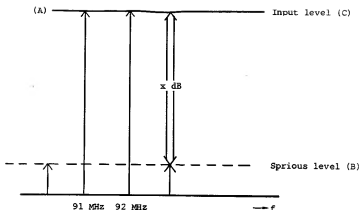

Fig. 4-4 Two-signal characteristic measurement
- ⑦ Read the difference between the input level and distortion level with the delta marker (see Figure 4-4). The two-signal characteristic represents the intermodulation distortion between the fundamental wave and the 3rd harmonic. It implies the anti-saturation characteristics of the mixers or amplifiers used in the spectrum analyzer.